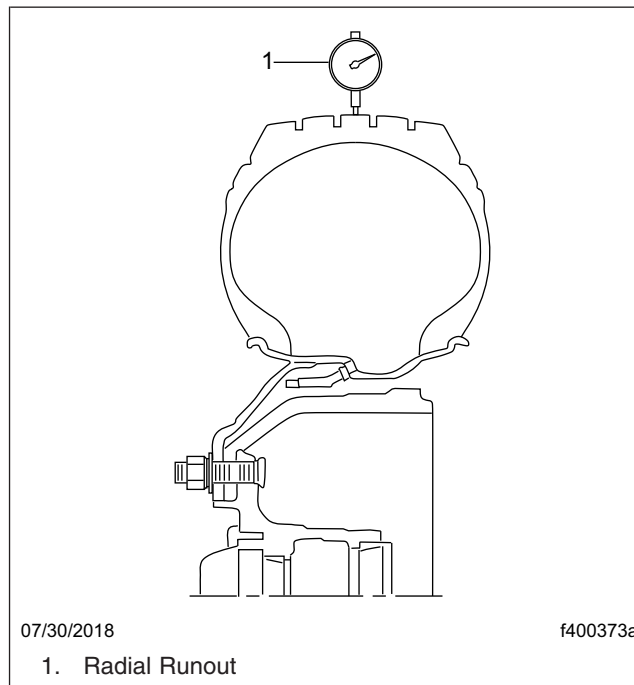

Fig. 7, Radial Runout Check for Tires
4. Beginning with the right-front wheel, use a tire runout gauge to check the radial runout. See **Fig. 7**. Write down the measurement for later use to avoid vibration complaints.